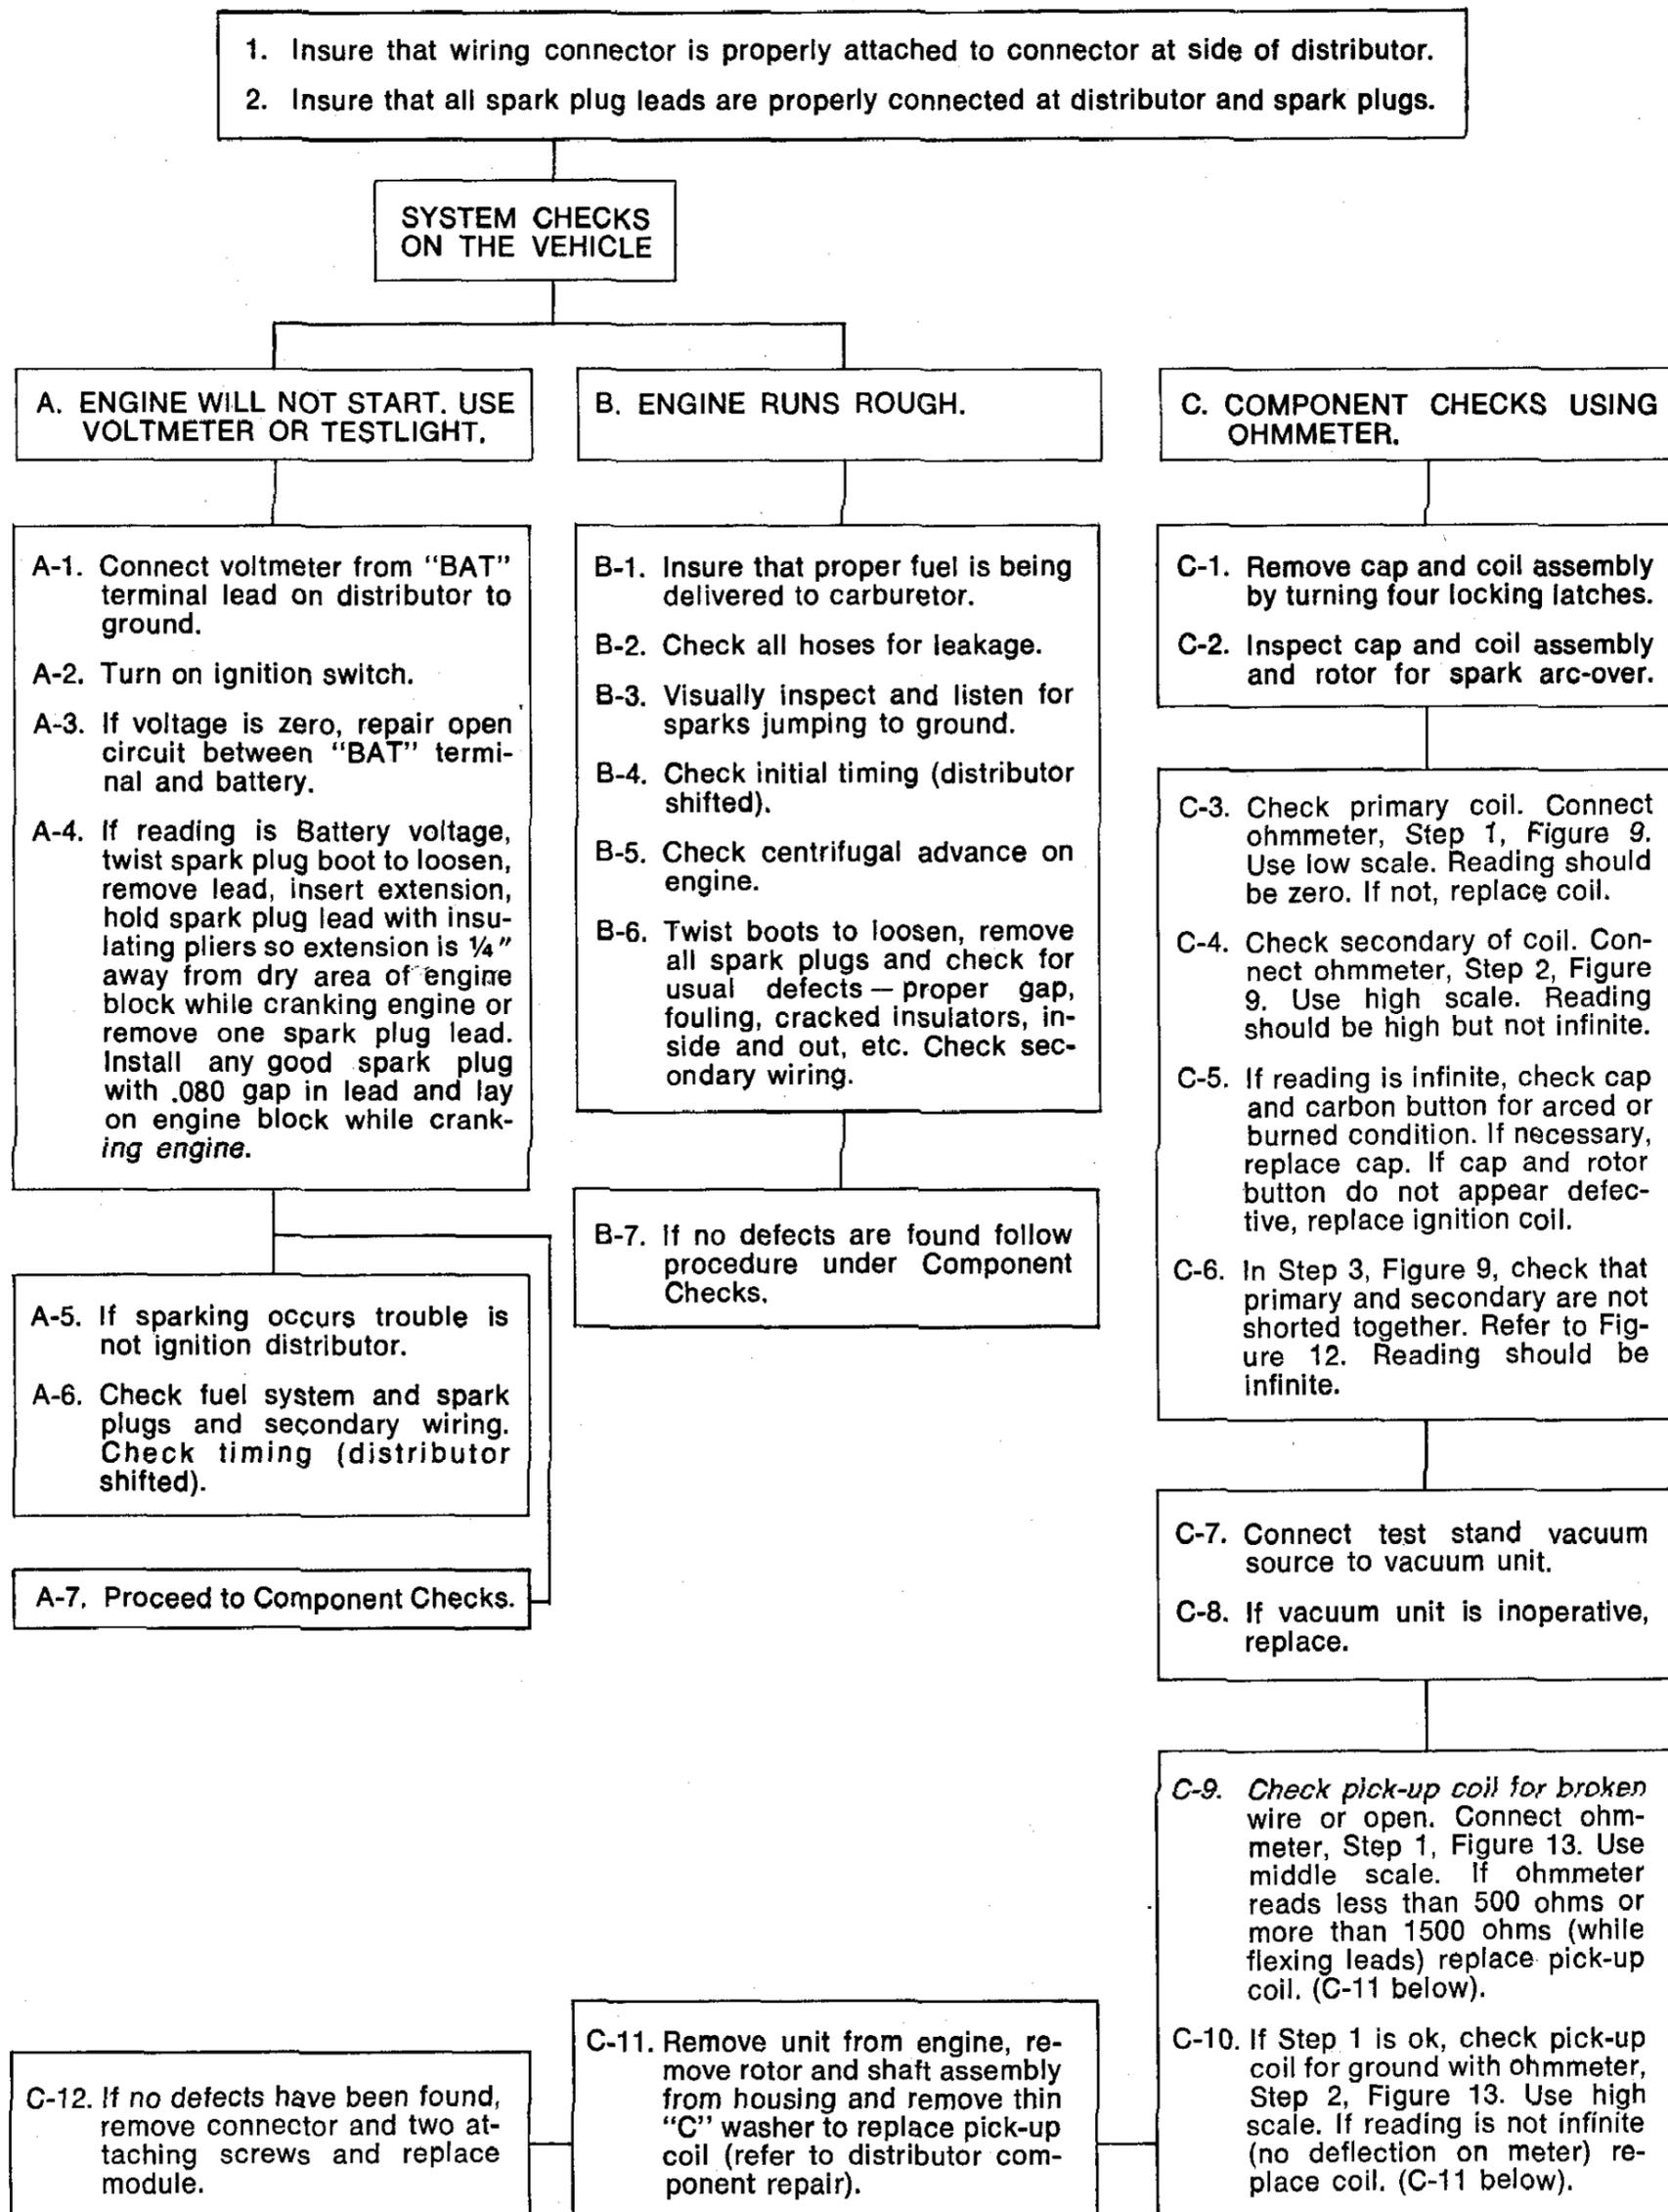

Figure 14—Diagnosing High Energy Ignition System Without Use of Module Tester J-24642
Check the HEI module with TEST 2 and check the pick-up coil with Ohmmeter (see chart on diagnosing the HEI system, figure 14).
3. Press and hold the "TEST" button. A momentary indication on the red "REPLACE" light, then a steady indication on the green "GOOD" light means the HEI module is good. A steady indication on the red "REPLACE" light means that the module is defective and should be replaced. If the module is good, check the pick-up coil (see chart-figure 14, steps C-9 and C-10).